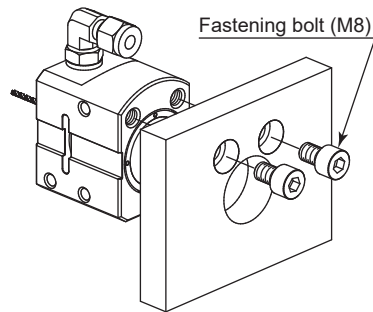

Fig. 19
- (1) Insert the spindle body housing (diameter $\phi 30$ mm) section into the fixed base of the machine tool.
- (2) Secure the spindle through the mounting holes (2 locations) using the fastening bolts (M8). (Fig. 19)